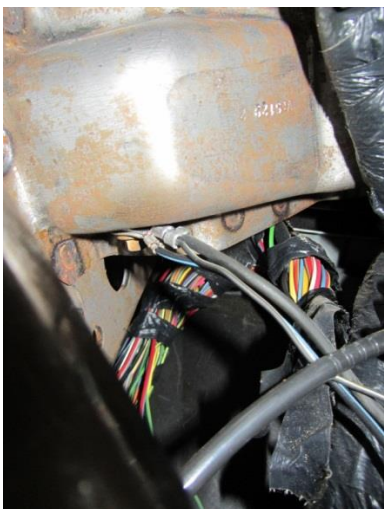

Figure 41. Firewall ground stud—driver side under dash
5. Attach Ground ring terminal (J32) to firewall stud for grounding. See Figure 41.